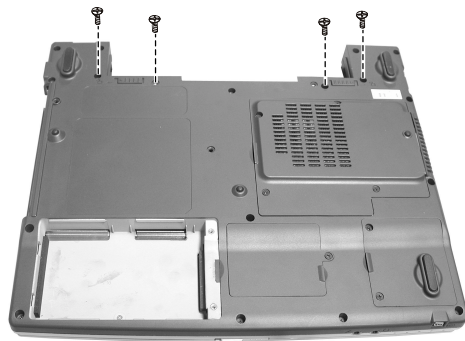

Figure 2-34 Remove four screws
3. Remove four screws that secure the system board. Then lift it up from the housing. (Figure 2-34)